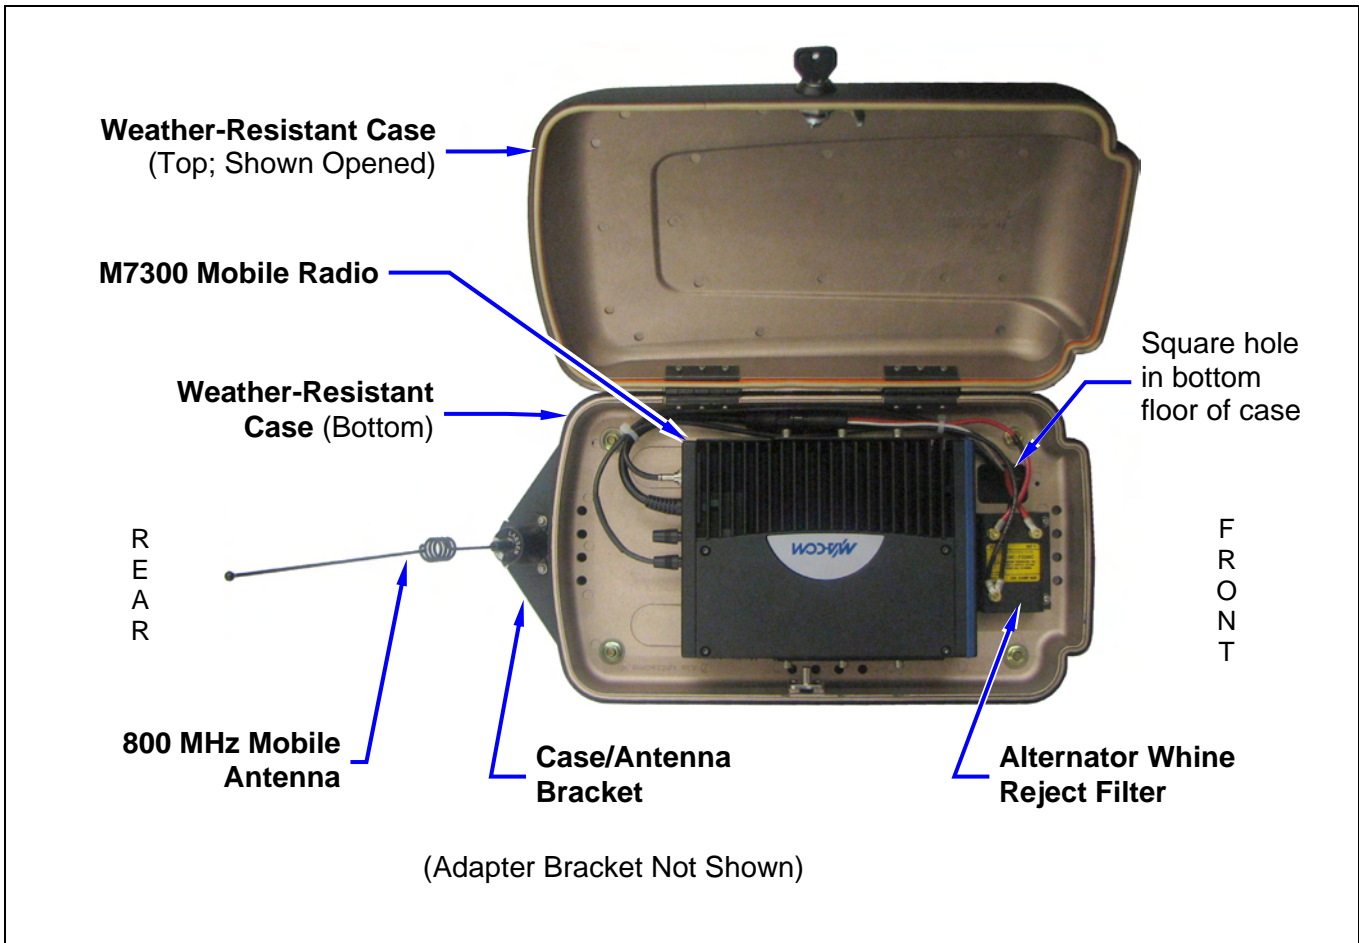
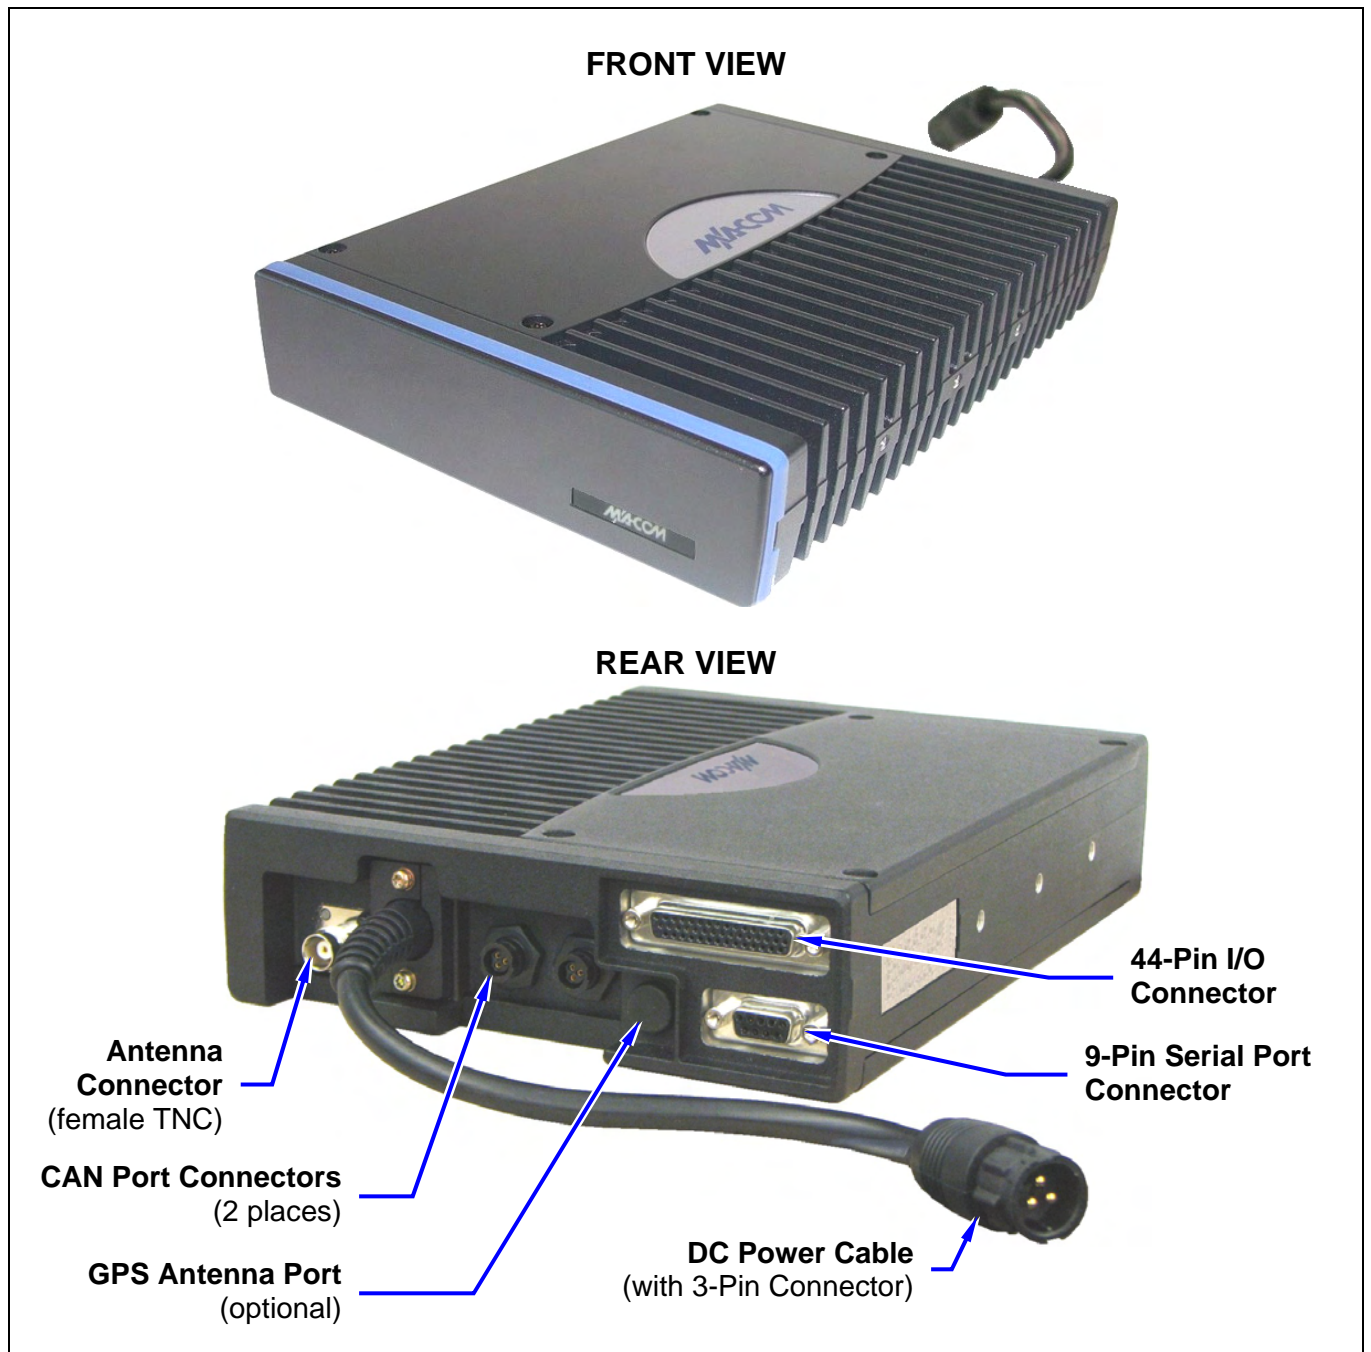

Figure 5-3: M7300 Mobile Radio inside Weather-Resistant Motorcycle Radio Case
Figure 5-4: M7300 Mobile Radio — Front and Rear Views
1. Lay the radio down into the mounting bracket with its front surface towards the front of the case. This positions the connectors on the rear panel of the radio towards the rear of the case and motorcycle. See Figure 5-3 and Figure 5-4 on pages 26 and 27.
2. Attach the radio to the bracket using the six (6) M5 x 10 mm stainless-steel socket-head screws, and flatwashers and lockwashers included with the Remote-Mount Radio Mounting Bracket Kit KT23117 (item 4 in Table 4-1).